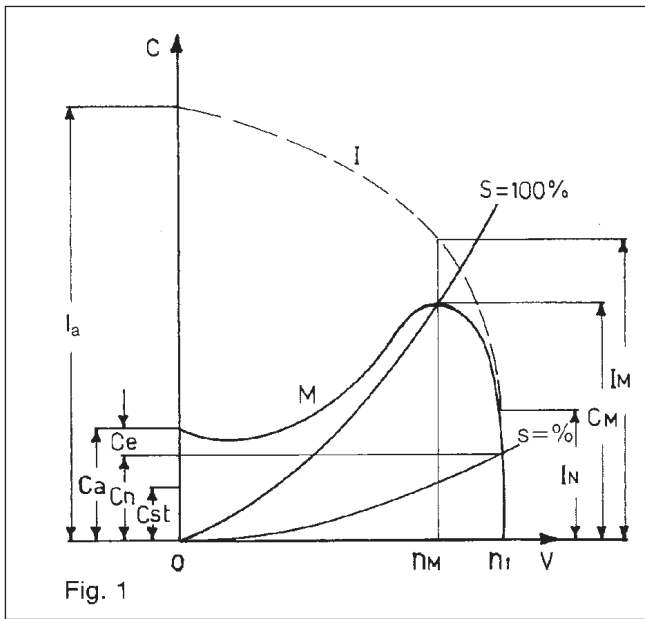

Fig. 1
Examining the diagram Torque (C) vs Speed (V) Fig. 1 on which the curves:
Let us consider a coupling having a slip $S=100\%$ crossing the curve M at the point nearest to the maximum torque (fig.1). Since a speed $v=0$ the coupling transmits no torque, the electric motor has all torque C_a available for the rotor acceleration. During the acceleration the oil moved by the pump element of the hydrodynamic coupling, gets in greater quantity into the circuit, acting more and more on the turbine element connected to the driven machine.